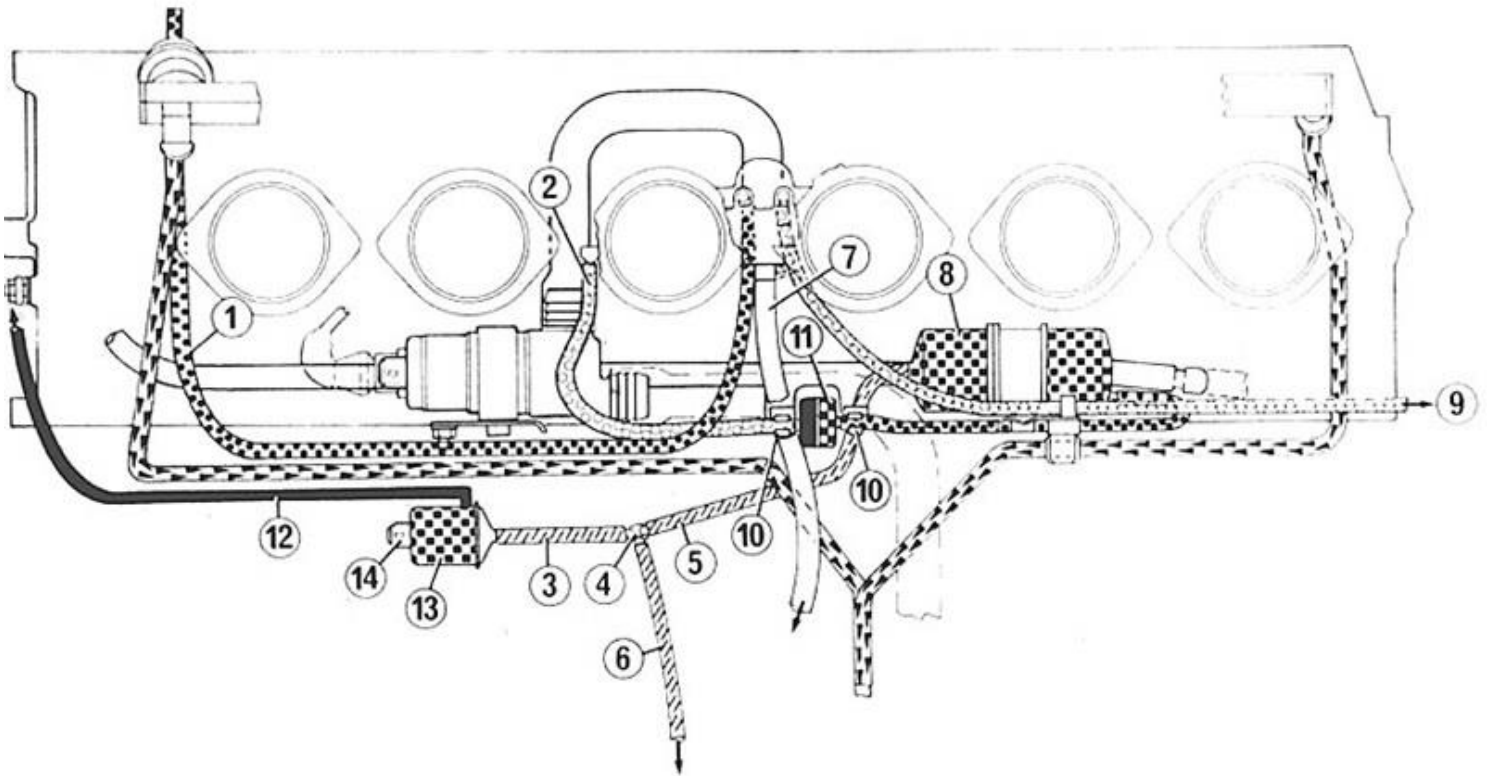

Figure 26
25. Disconnect the vacuum line #1 from the fuel pressure regulator barb and also from the throttle body vacuum source barb. Replace the line with a ~54.5cm (21.5") for a S38B36, or use your existing line as a template for a replacement line. Be sure to note routing, and if it rubs on anything, use the abrasion protection where needed – keep all bends gradual. See Figure 26.